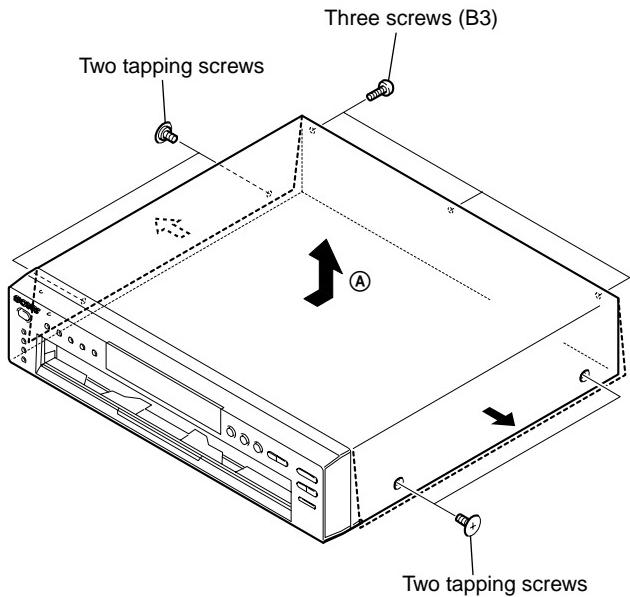

Fig. 1
- 1) Remove the four tapping screws and three screws. (See Fig. 1)
- 2) Open the sides of case. (See Fig. 1)